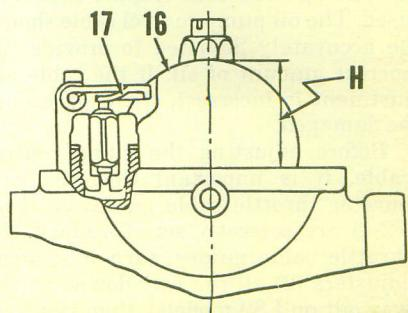

Fig. Y2-2—Float level (H) is adjusted by bending tang (17).
mixture. Carburetors must be synchronized to open exactly the same amount by turning cable guides (1) on top of carburetors. Float level (H—Fig Y2-2) should be 23MM (0.906 in.) and is adjusted by bending tang (17) on float. Refer to Fig. Y2-1 and the following standard specifications: